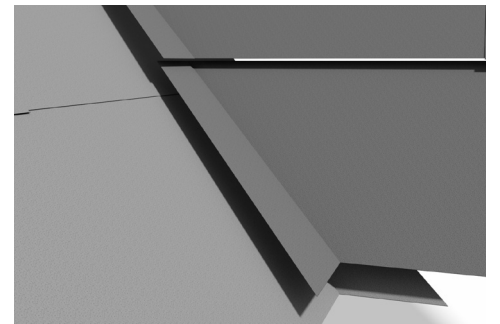

fig 8: Valley laps
8. Where valleys occur, the Danelaw LR120T should be laid not less than 300mm beyond the centre line of the valley on each side (fig. 8). Where a continuous length of underlay is laid up the length of the valley, it should be a minimum of 600mm wide and the underlay from either side of the valley should be mitre cut to the appropriate line to suit the valley trough installation requirements.